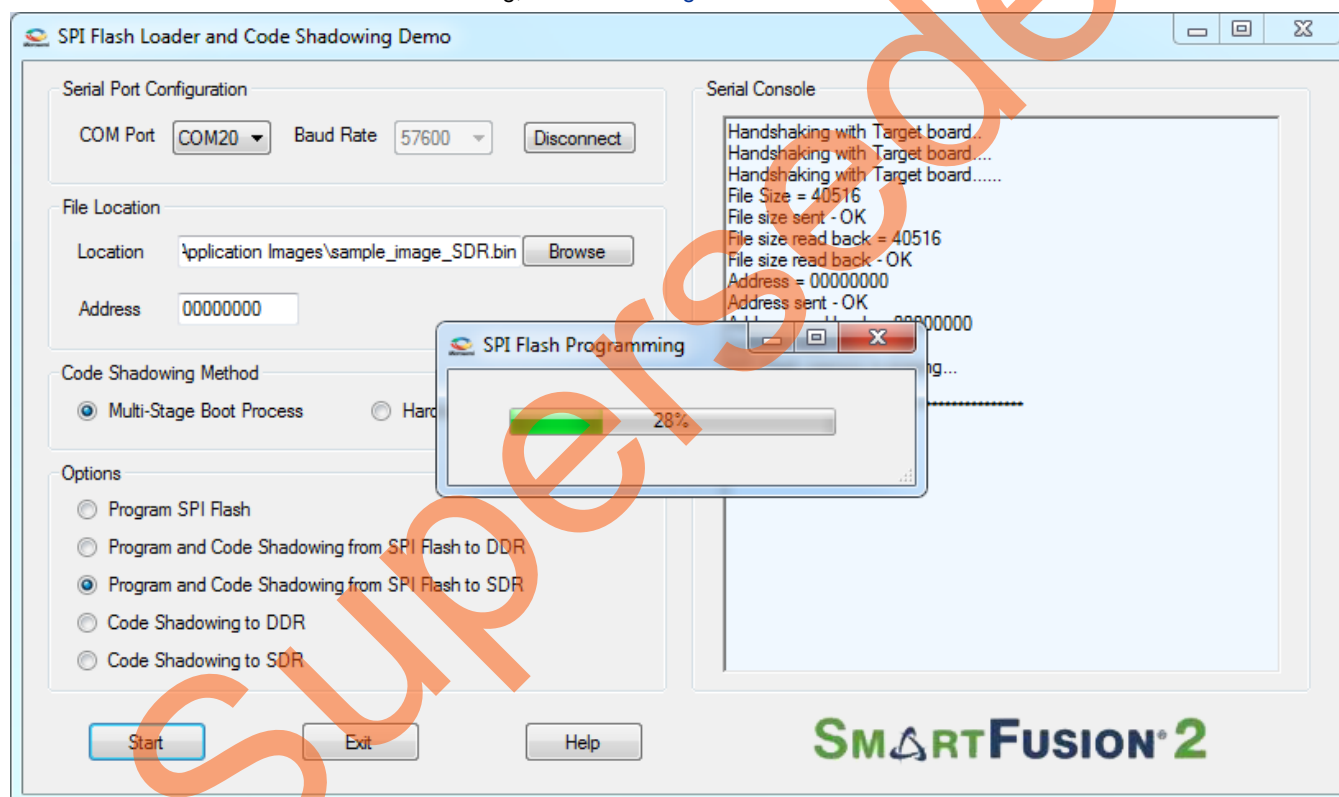

Figure 9. SPI Flash Programming
11. The GUI starts programming SPI flash after successfully erasing the SPI flash. The GUI shows the status of SPI flash writing, as shown in Figure 9.